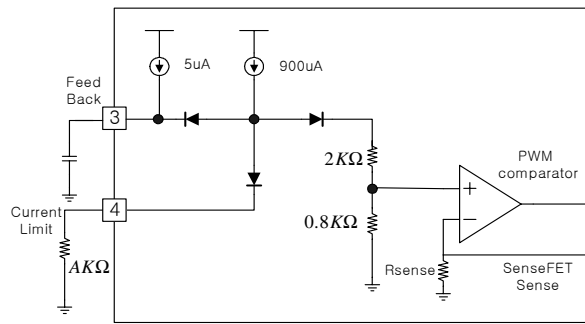

Figure 14. Peak current adjustment
8. Adjusting Current limit function: As shown in fig 14, a combined $2.8K\Omega$ internal resistance is connected into the non-inverting lead on the PWM comparator. A external resistance of Y on the current limit pin forms a parallel resistance with the $2.8K\Omega$ when the internal diodes are biased by the main current source of $900\mu A$.